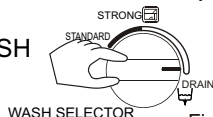

Figure 5
Then hang the drain hose into the hanging hole at the spin tub side. (As per Figure 5).
6. After washing, the buzzer will ring. Set the "WASH SELECTOR" at "DRAIN". (Figure 5).